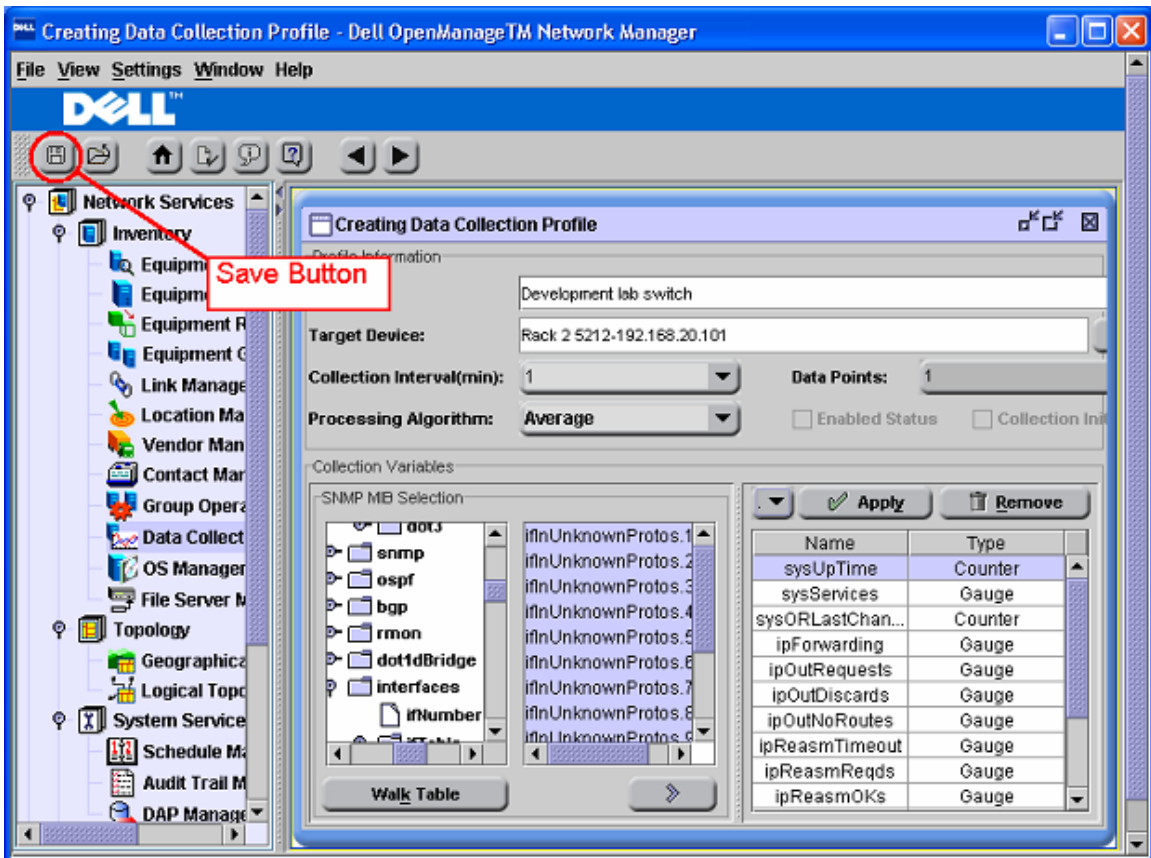

Figure 6. Saving a Data Collection Profile.
10. Once you are finished adding the elements you want to monitor, press the Save button (as shown in Figure 6) to save your profile.
- Note that all new Data Collection Profiles are disabled by default. The next section, Starting and Stopping a Data Collection Profile, details the steps necessary to enable the collection profile. If at any time you need to make changes to a profile, click on the profile in the list, and then press the Open button. This will take you to the Editing Data Collection Profile screen which is similar to the Creating Data Collection Profile screen used to create the profile. After making changes, click the Save button as shown in Figure 6.